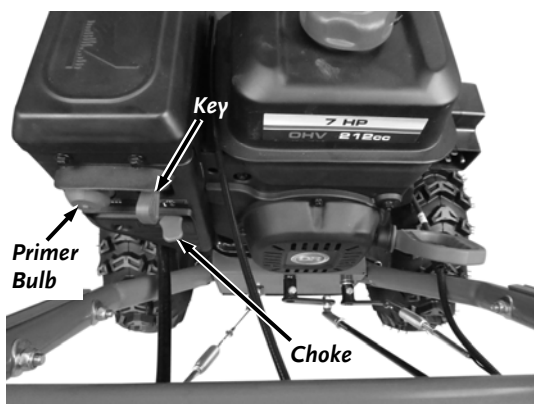

Figure 26
1. Insert the Key into the Key Slot (**Figure 26**).